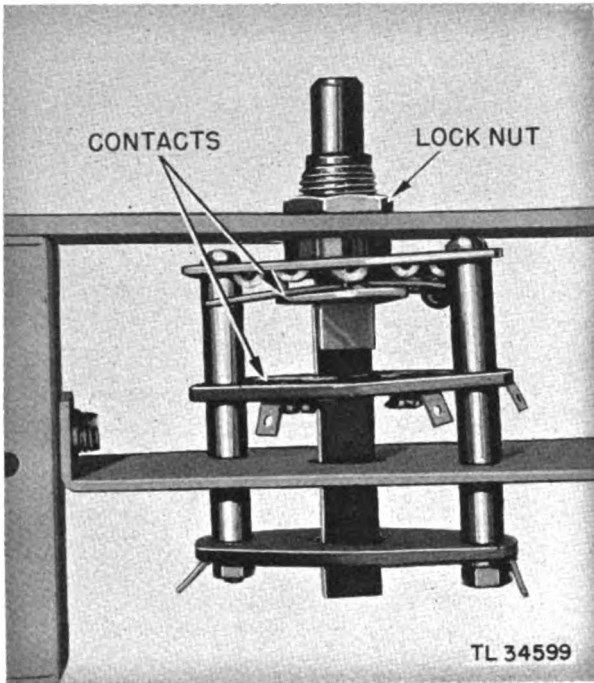

Figure 4. Gang switch.
b. INSPECT (I). (1) The mechanical operation of each switch is to be inspected. Look for signs of dirt or corrosion on the exposed elements of the switches during inspection. In some cases, it is necessary to examine visually the elements of the switch. In other cases the action can be checked by flipping the control knob or toggle switches and noting the freedom of movement as well as the amount of spring tension.
(2) Examine the gang switches (fig. 4) to see if they are properly lubricated and the contacts are clean. Since the inspection is visual do not pry the leaves of the switch apart. The contacts are silver-plated and do not easily corrode. The rotary member should make good contact with the stationary member, and as the former slides into the latter, a spreading of the stationary contact leaves should be seen.
c. TIGHTEN (T). Loose mountings and connections should be tightened.
d. CLEAN (C). Dirty switches should be cleaned with a stiff brush moistened in carbon tetrachloride and polished with a piece of cloth. Corroded connections may be cleaned with No. 0000 sandpaper.
e. LUBRICATE (L). The joints of all accessible switches should be oiled with petroleum jelly (vaseline or walscolube), only when necessary.